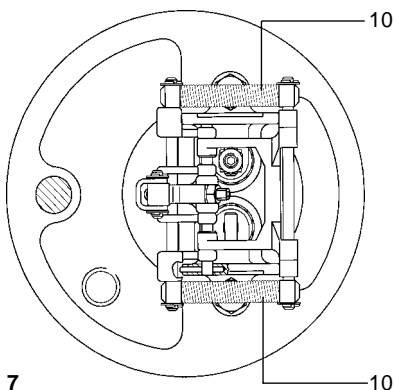

Fig. 7
3. Visually check springs (item 10 Fig. 7). If defective, remove split pins and washers and slide spring assemblies from shafts. Replace with new spring assemblies (see section 5e - spring setting) and install new split pins and washers.